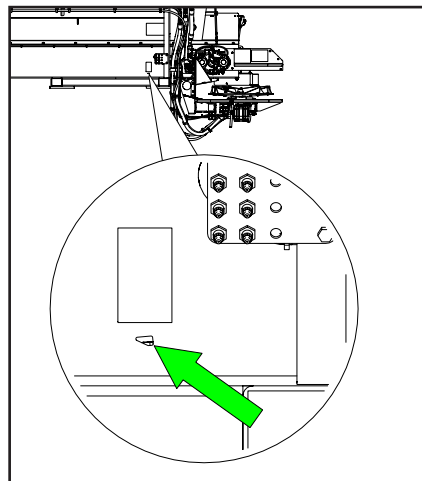
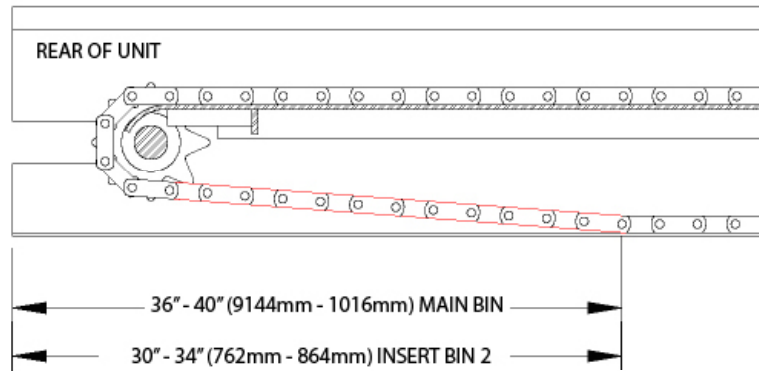

Figure 2A
Figure 3 - Chain Tension
Proper chain tension is a factor in chain and sprocket life. Measuring from rear of unit, top of chain should appear between MIN and MAX lines in sight window (Figure 2A), and conveyor should touch bottom sill flange at 36" - 40" (91 - 102cm) mark as shown in Figure 3.
Using a 3/4" wrench, turn idler extenders at rear of unit to adjust tension. Turn clockwise to increase tension, and turn counterclockwise to decrease tension. Measuring from rear of insert bin's sill, conveyor chain should touch bottom sill flange at 30" - 34" (76 - 86cm) mark as shown in Figure 3. Measurements must be equal between each side.
- Make sure belt connecting pin is positioned correctly as shown in Figure 3.